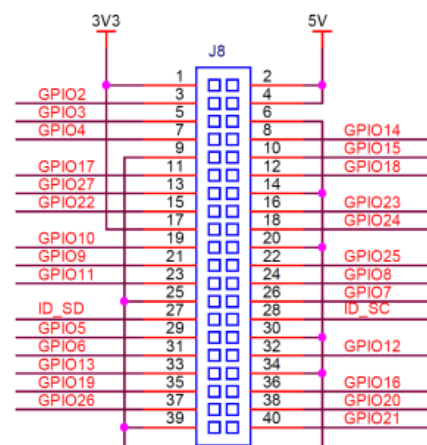

Figure 27 - Raspberry Pi GPIO Pinout
The Raspberry Pi 40-pin Connector pinout can be seen in FIGURE 27 - RASPBERRY PI GPIO PINOUT. A simple voltage check of 3.3V on pin 1 and 5V pin 2 should confirm orientation if unsure. The Raspberry Pi GPIO pins and their functions can be seen in TABLE 3 - RASPBERRY PI GPIO PINS AND FUNCTIONS
- 5V: This is the 5V supply for the Raspberry Pi. The 5V is picked up from pin 2 or 4 on the Raspberry Pi connector. See FIGURE 27 - RASPBERRY PI GPIO PINOUT.